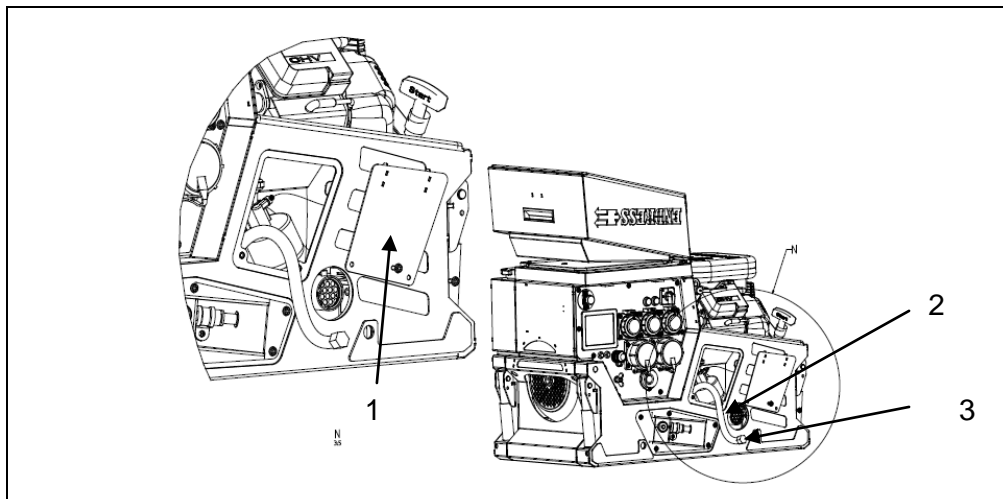

Fig. 6-3: Changing the oil
1. Unscrew the oil filter side plate (Fig. 6-3(1)) on the generator.
2. Pull out oil drainage hose (Fig. 6-3(2)) completely.
4. Remove oil screw plug (Fig. 6-3(3)).
6. Then close the oil screw plug (*Fig. 6-3-(3)*) again and screw the side plate on again.
The procedure is as described in the operating instructions for the engine. To do this the side plate oil filter (*Fig. 6-3(1)*) on the generator must be unscrewed and the flap must be opened.